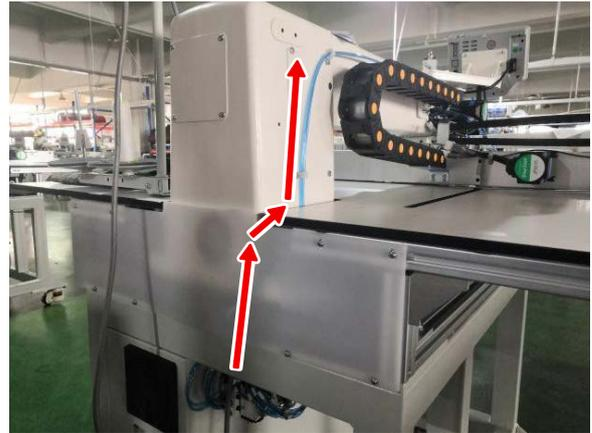
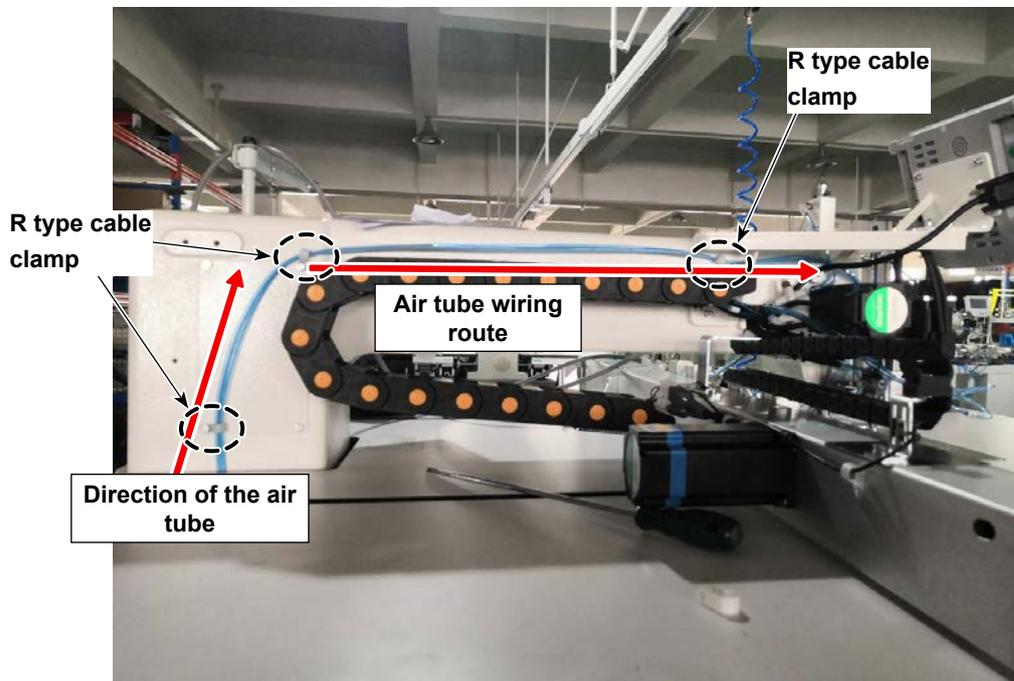

Fig. 2
Fig. 3
- 1) Route the air tubes along the outer surfaces of the casing (Fig. 2). Then, pass it along the route while putting three R type cable clamps over the air tubes as shown in Fig. 3 and secure the air tubes on the outer surface of the casing. Then, complete the wiring of the air tubes by connecting them to the pen cylinder.